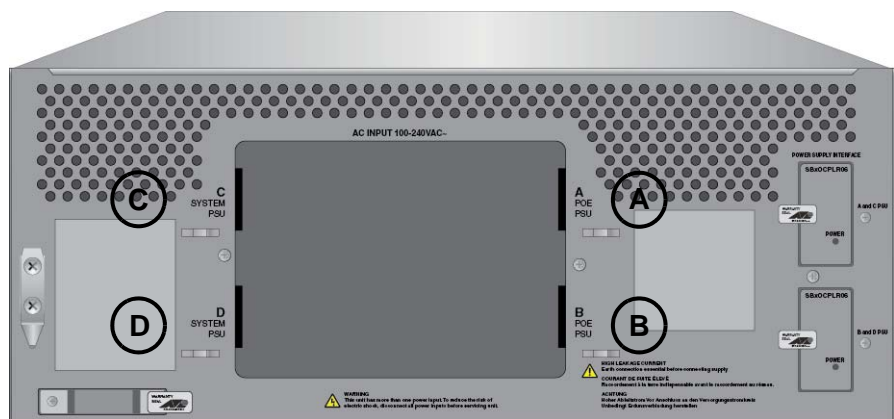

Figure 107. AC Sockets on the Rear Panel of the AT-SBx8106 Chassis
1. Identify AC sockets C and D in the recessed panel on the back panel of the chassis, shown in Figure 107. These sockets are for the AC system power supplies in slots C and D on the front panel of the chassis.
1. Identify AC sockets A and B in the recessed panel on the back panel of the chassis, shown in Figure 107 on page 177. The sockets are for the AT-SBxPWRPOE1 Power Supplies in slots A and B on the front panel of the chassis.